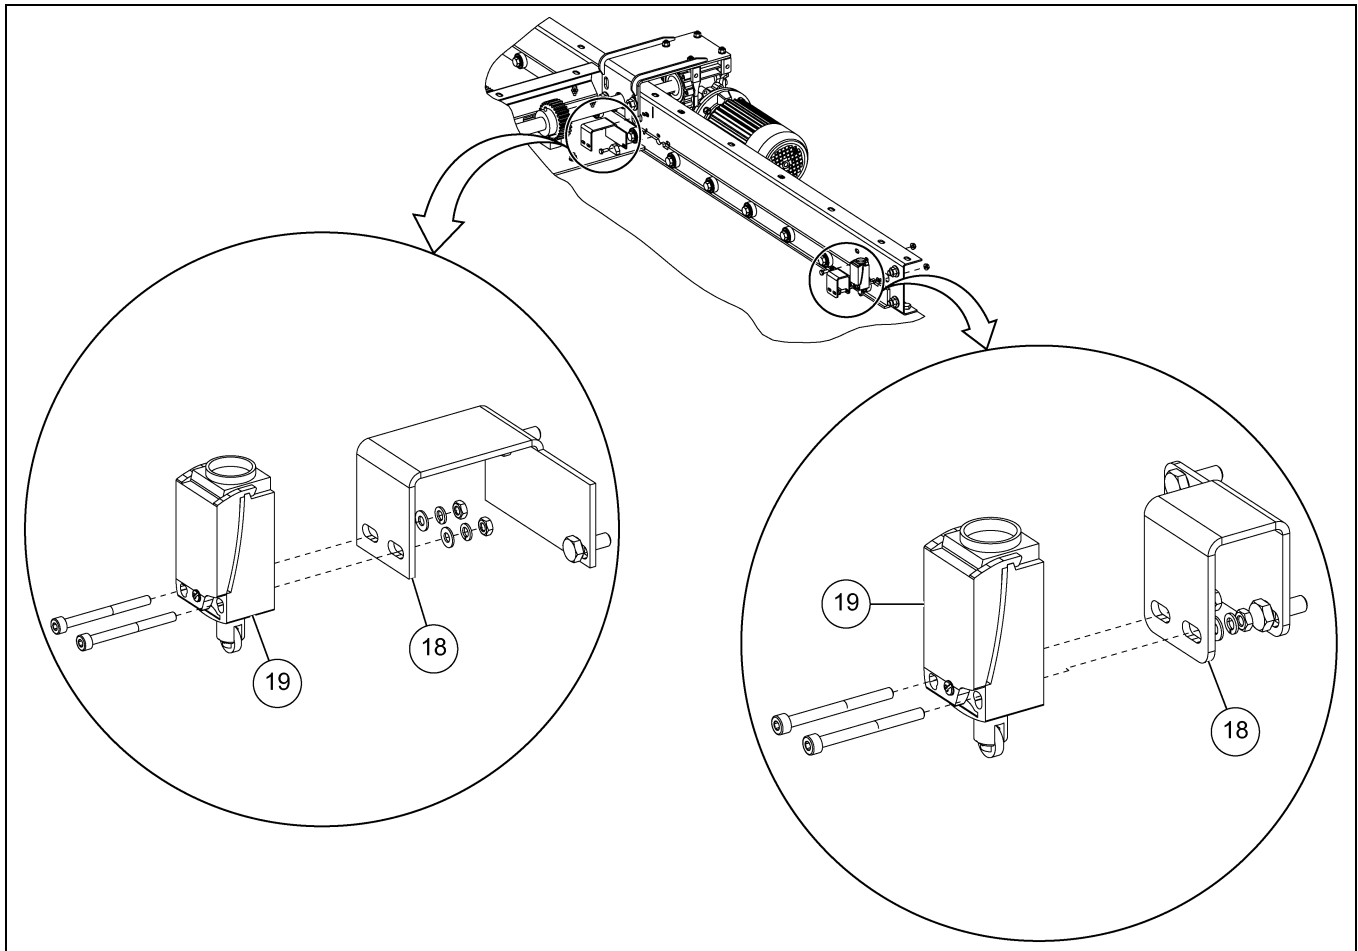

Figure 3J Installing the Limit Switch
1. Using limit switches that are available in STD and ATEX or explosion proof standards, achieves accurate positioning of these gates. Limit switches (19) are located on both sides of the frame to detect when the gate is completely open or closed. (See Figure 3J.)
2. Attach the switch brackets (18) to the inside of the gate as shown using hardware provided. (See Figure 3J.) Attach the limit switch (19) to the bracket as shown in Figure 3J.
3. After switches are securely fastened, adjust lever arms so they come in contact with tripper blocks (22) on underneath side of the slide plate.
4. Disconnect the power at the electrical panel and run the proper gauge electrical wire to the motors and limit switches (19). (See Wiring Diagrams on Pages 27 and 28.) **Make sure that the limit switches (19) are adjusted properly before operating the gate.** Turn the power back ON and CAUTIOUSLY operate the gate, opening and closing the gate slide, making the necessary adjustments to the limit switch arms to assure complete opening and closing of the gate.